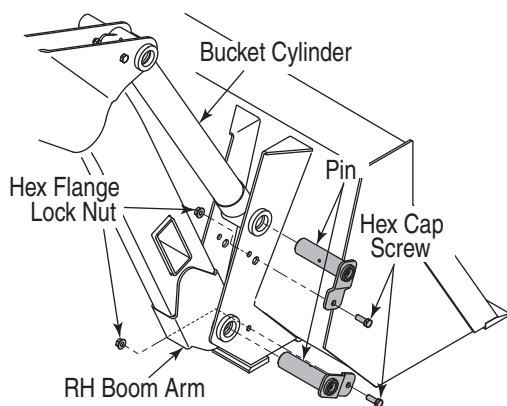

Figure 6
- Position the bucket in front of the boom and mast assembly. Align the bottom of the left and right hand boom arms with the lower holes in the rear mounting brackets of the bucket. Refer to Figure 6. **NOTE:** It may be necessary to manually roll the bucket to align the boom arm and rear mounting bracket holes.
- Reinsert two pins (one on the left and one on the right) to fasten the boom to the bucket mounting brackets. Secure the pins with the screws and hex flange nuts removed earlier. See Figure 6.